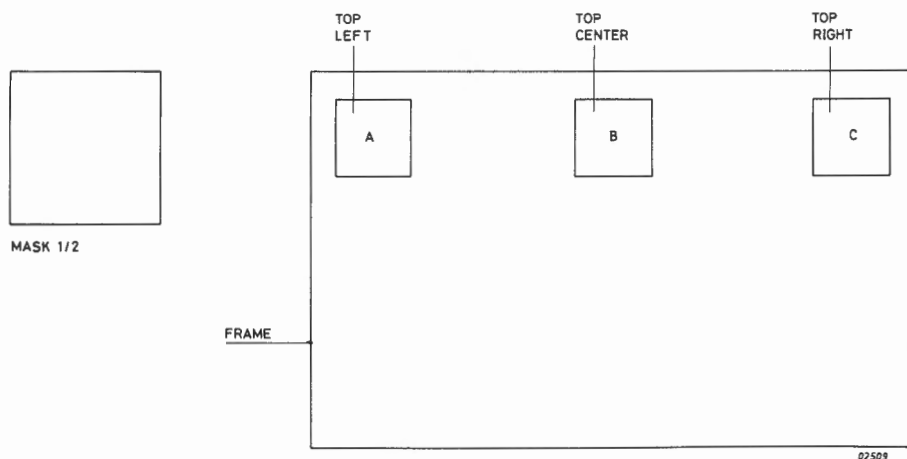

Figure 8.13 MASK 1/2 AND HORIZONTAL LINEARITY
q. Horizontal Linearity Adjustment (see figure 8.13)